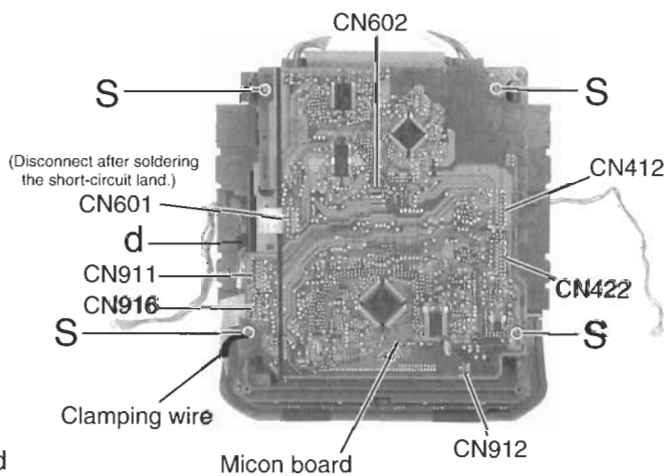

Fig.23
■ Removing the micon board (See Fig.23)